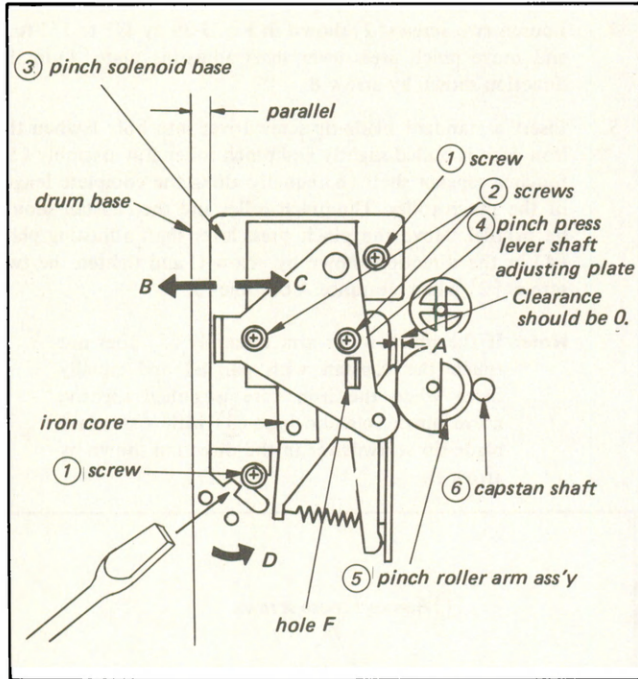

Fig. 3-29. Position adjustment of pinch roller solenoid
3. Loosen the two screws ① fastening the pinch solenoid base ③ shown in Fig. 3-29 and tighten screws ① when the pinch solenoid base ③ becomes parallel to the drum base.
4. Loosen two screws ② shown in Fig. 3-29 by 1/3 to 1/2 turn and move pinch press lever shaft adjusting plate ④ in the direction shown by arrow B.
5. Insert a standard blade-tip screwdriver into hole F when the iron core is pulled slightly and pinch roller arm assembly ⑤ touches capstan shaft ⑥ equally along the complete length of the pinch roller. The pinch roller and the capstan should be parallel. Move the pinch press lever shaft adjusting plate ④ in the direction shown by arrow C and tighten the two screws ② when clearance A becomes 0.